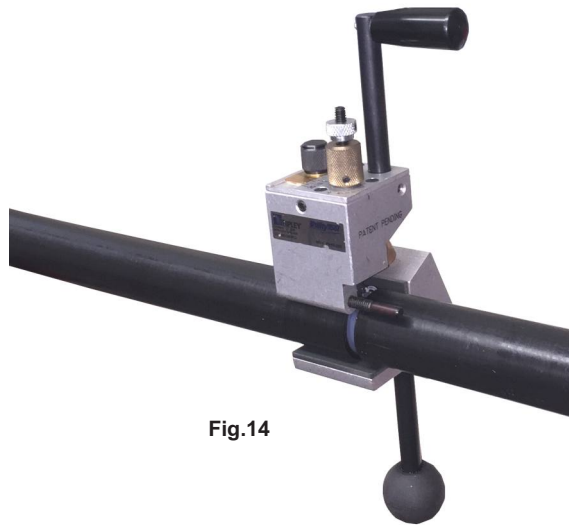

Fig.14
- Set the blade angle at approx 10°. Rotate the tool to start the stripping action Fig.14. Carefully observe the blade depth and readjust if necessary.
1. Establish the blade depth. Similar to 15kv cable, a channel cut must be made to expose the conductor with the blade at the 0° angle. Start with the blade fully retracted, then remove the insulation in small segments, 2 to 3 blade depth turns at a time. Do not attempt to remove too thick a chip of insulation. More than 3 depth turns can break the blade. The final blade depth is approx. 1/16" above the conductor. The tool in Fig.14 is fitted with a positive depth stop. This accessory is useful for protecting the conductor and blade from damage and is detailed below.